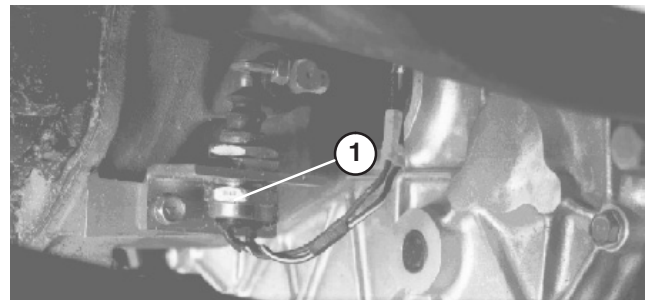

Figure 58
7. Recheck clutch safety switch adjustment (Fig. 58). Engine must not crank unless clutch pedal is $1.25'' \pm .12''$ from floor. If an adjustment is required, loosen switch jam nuts and adjust up or down.